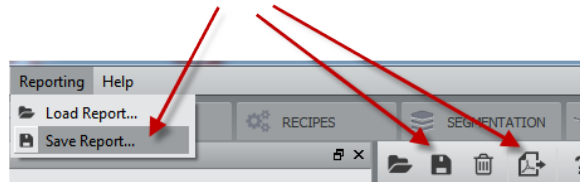

Figure 17.7: Saving or Exporting a Report
8. To remove a snapshot or a spreadsheet from the report, click on it and press *Delete*. The report can then be saved as an HTML page or exported to PDF (see Figure 17.7).